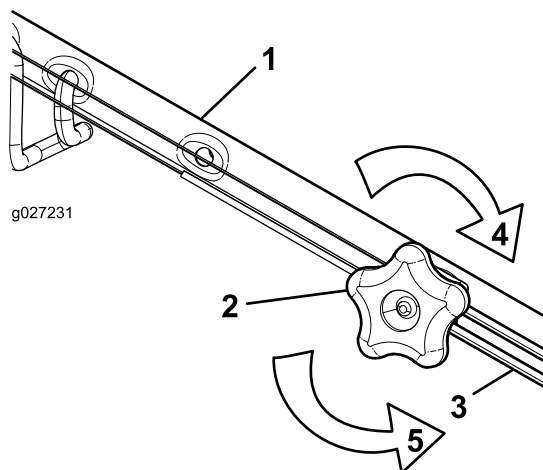

Figure 29
1. Turn the adjustment knob counterclockwise to loosen the cable adjustment (Figure 29).
2. Adjust the tension on the cable (Figure 29) by pulling it back or pushing it forward and holding that position.